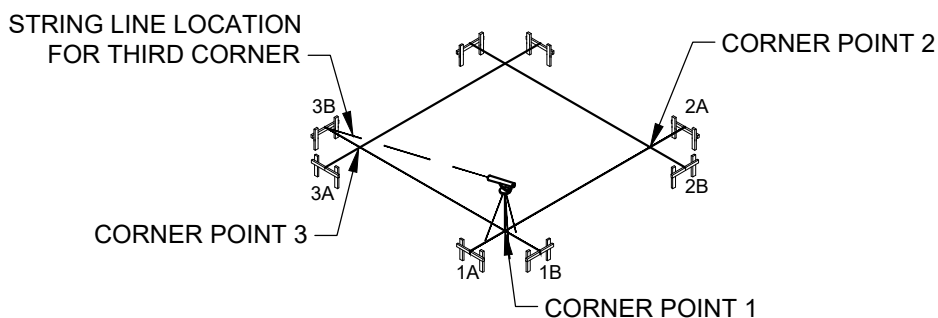
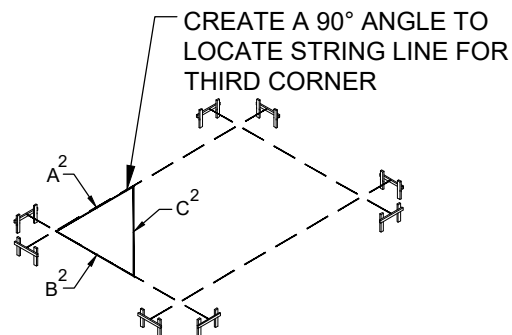

FIGURE 2 - LOCATING CORNER POINT 3
FIGURE 4 - TRIANGLE METHOD
5. TO LOCATE THE THIRD CORNER POINT (FIG. 2), YOU MAY USE ONE OF TWO METHODS, THE DIAGONAL METHOD OR THE TRIANGLE METHOD.
THE TRIANGLE METHOD - CREATE A 90° ANGLE FROM THE FIRST LINE USING CORNER POINT 1 AS A VERTEX. THIS ANGLE MAY BE ACCOMPLISHED BY USING TWO TAPE MEASURES AND THE CHART LISTED BELOW (SEE FIG. 4) (USE THIS METHOD FOR LARGER BUILDINGS WHERE THE LENGTH OF THE DIAGONAL EXCEEDS THE 100 FOOT TAPE MEASURE). WHEN YOU HAVE LOCATED CORNER POINT 3, PULL YOUR SECOND LINE BETWEEN BATTER BOARD "1B" AND BATTER BOARD "3B" MAKING SURE IT PASSES OVER CORNER POINT 1 AND CORNER POINT 3. CHECK WITH TRANSIT MAKING SURE THAT BATTER BOARDS AND LINES ARE LEVEL (SEE FIG. 2).